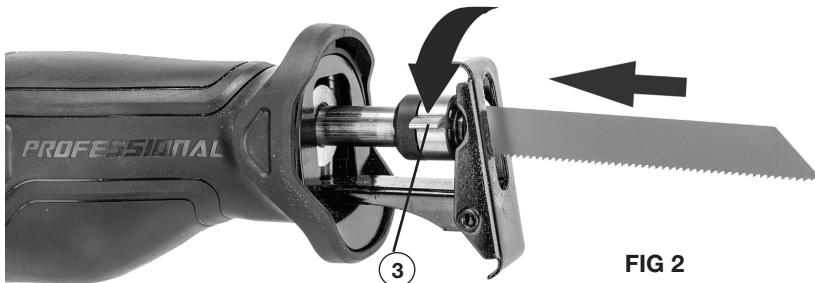

FIG 2
### INSTALLING AND REMOVING THE SAW BLADE (FIG 2)
**To Install a Blade,** rotate the quick-release blade clamp (3) as far as it will go in the direction as shown in FIG 2 (counterclockwise if facing the saw). Slip the new blade into blade clamp as far as it will go. Release the blade clamp. The new blade should now be securely fastened.